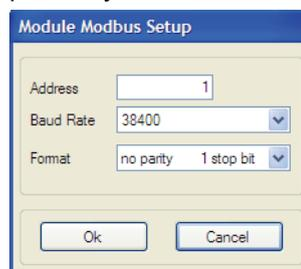

Fig. 6: Modbus Setup window.
- In the Module Modbus Setup window (see Fig. 6) the user can introduce the Modbus address of the module (from 1 to 247), the Modbus Baud Rate (selectable among 4800, 9600, 19200, 38400, 57600 and 115200 bps) and the Modbus Format (no parity 1 stop bit, even parity 1 stop bit, odd parity 1 stop bit).